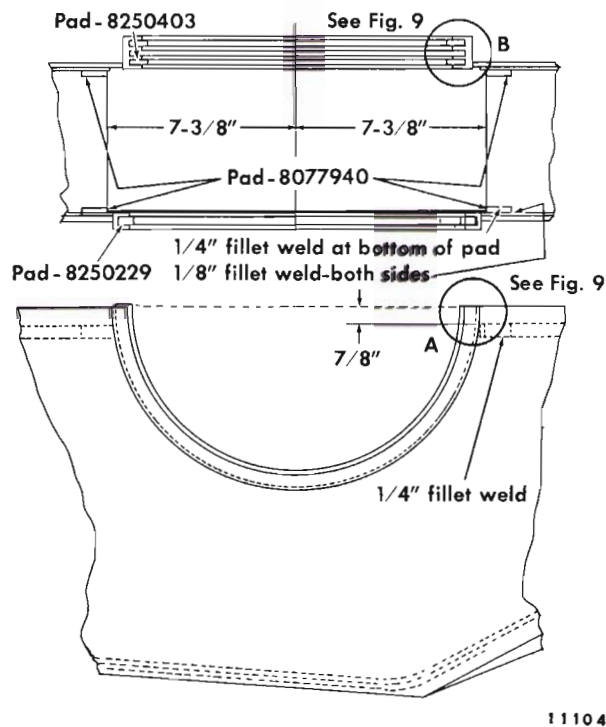

Fig. 7 - Lower Half Case
2. Apply gutter retainer pads 8077940 as shown in Fig. 7. The four pads are used to prevent the gutters from rotating out of the retainers in the upper gear case. Position the pads on the splash guard strip and weld across the bottom and at both ends. On some gear cases, the splash guard strip was short and did not extend up close to the seal retainers in the area where pads must be located. Where this exists, a 1/8" thick filler strip will be required between the pad and gear case. Pads must be located 7-3/8" from the centerline of the retainer.
4. Apply felt seal stop pads 8250403 and 8250229 to the axle felt seal retainers as shown in Figs. 7 and 9. Weld the stop pads in the seal retainers on the side toward the pinion. After pads are welded, they should be filed or ground smooth with the top of the seal retainer. Fig. 9 shows how to trim the felt seals, when they are applied to the retainers.